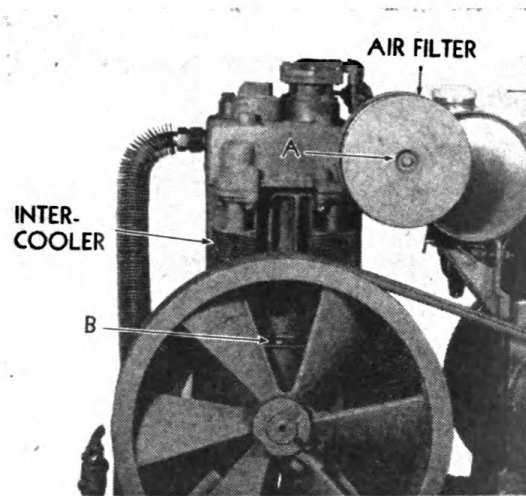

Figure 45
(1) Remove screw ("A" Figure 45).
(3) Use extreme care in tightening cap screw ("A" Figure 45) when reassembling filter. Failure to do so will result in breakage of outer cap.
d. The compressor crankcase breather opening ("B" Figure 45) should have at least $\frac{1}{32}$ " movement. Clean weekly to make sure that
4. Clean breather opening ("B" Figure 45) of compressor crankcase to make sure crankcase has proper ventilation.